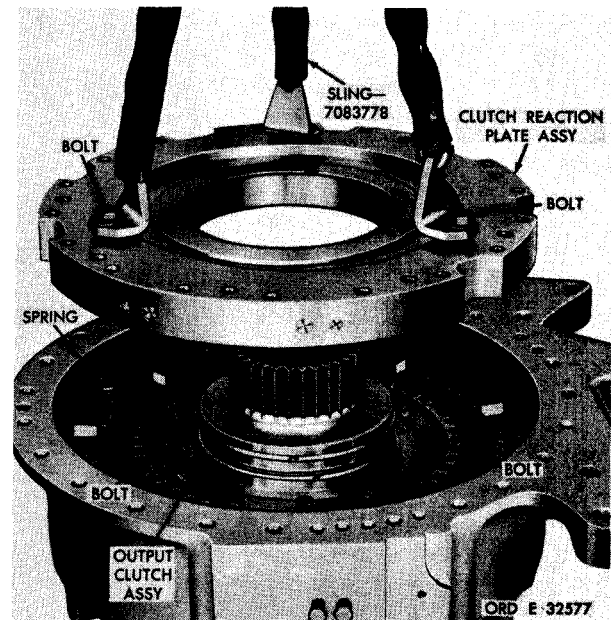

Figure 158. Removing (or installing) clutch reaction plate assembly
e. Using sling 7083778 and three 7/16-14 bolts, remove the clutch reaction plate assembly (fig. 158). Mark the plate and end cover for reference at reassembly.
f. Remove nine steer clutch release springs (fig. 158).
g. Remove two bolts from the output clutch assembly (fig. 158).